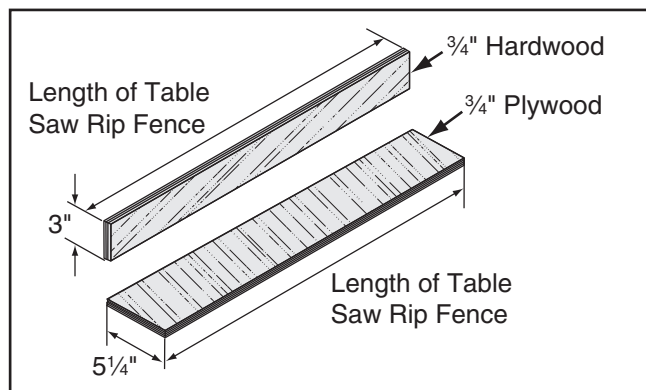

Figure 87. Auxiliary fence dimensions.
1. Cut a piece of $\frac{3}{4}$ " thick plywood $5\frac{1}{4}$ " wide and as long as your table saw fence; cut a piece of $\frac{3}{4}$ " thick hardwood 3" wide and as long as your table saw fence, as shown in **Figure 87**.